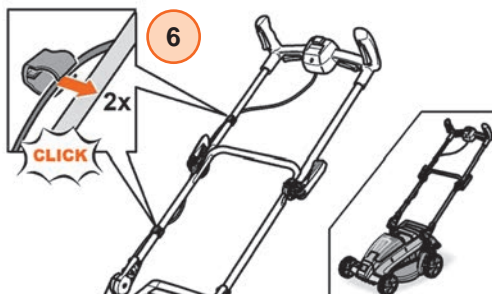

Figure 4
4. Attach the cable with the two cable clamps (6) (see Figure 4).